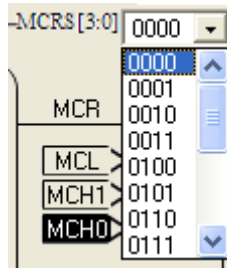

Figure 55
- (1) Click mouse left key to the network name, MCRS, to select the network
- (2) Click mouse left key to the network switch, MCRS, to select the network
- (3) Click mouse left key, window like Figure 55 shows up, then user can select the switch network